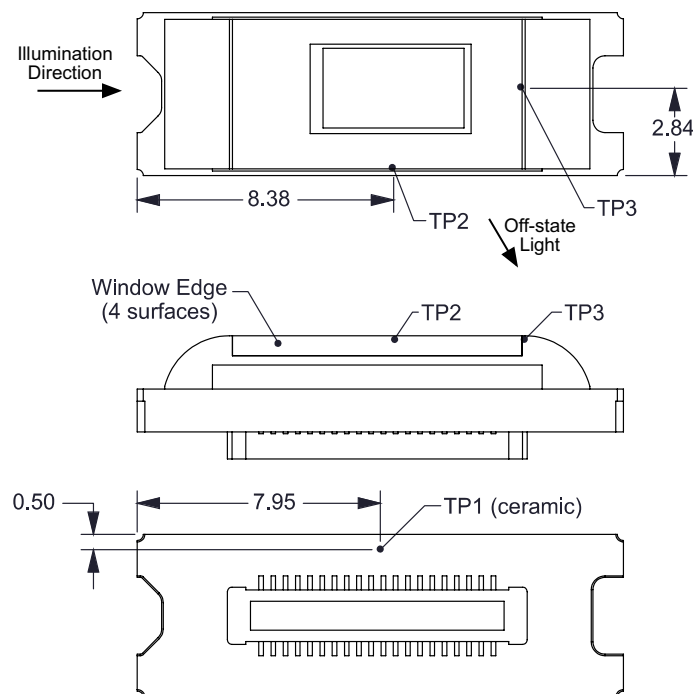

Figure 18. DMD Thermal Test Points
- T_{CERAMIC} = Measured ceramic temperature (°C), TP1 location in Figure 18